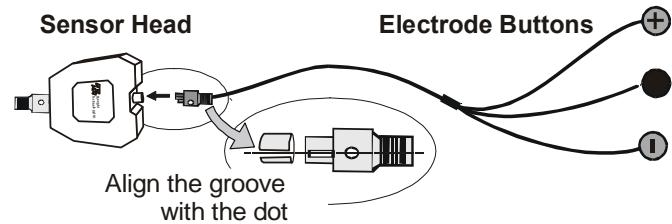

Fig. 3 Extender Cable
**Extender Cable (#T8720M):** Thought Technology's 450mm extender cable can be inserted directly into the sensor head (figure 3), being careful to align the alignment